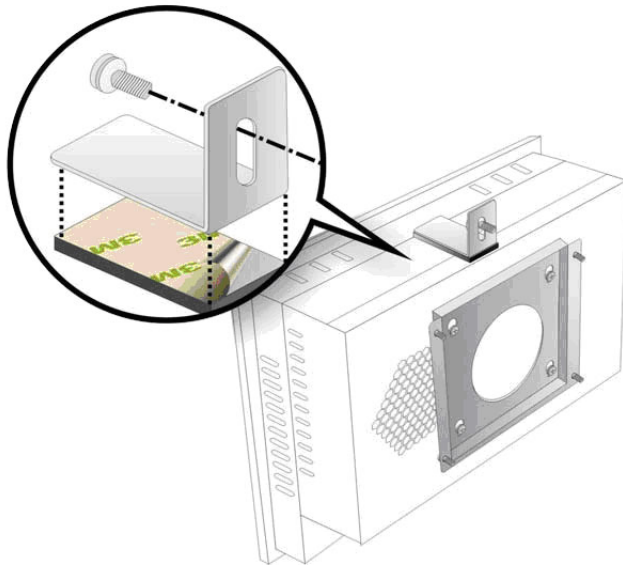

Figure 3-22: Secure the Chassis
Step 3: Secure the panel PC with the wall-mounting kit. To do this, stick the protective cushion to the wall-mounting kit first. Then, put the wall-mounting kit on the top panel of the panel PC. Carefully mark the location of the wall-mounting kit screw holes on the wall. Drill a pilot hole at the marked location on the wall. Secure the wall-mounting kit to the wall by inserting a retention screw into the pilot hole on the wall (**Figure 3-22**). This step is to avoid the panel PC being pushed apart from the wall-mounting bracket accidentally.